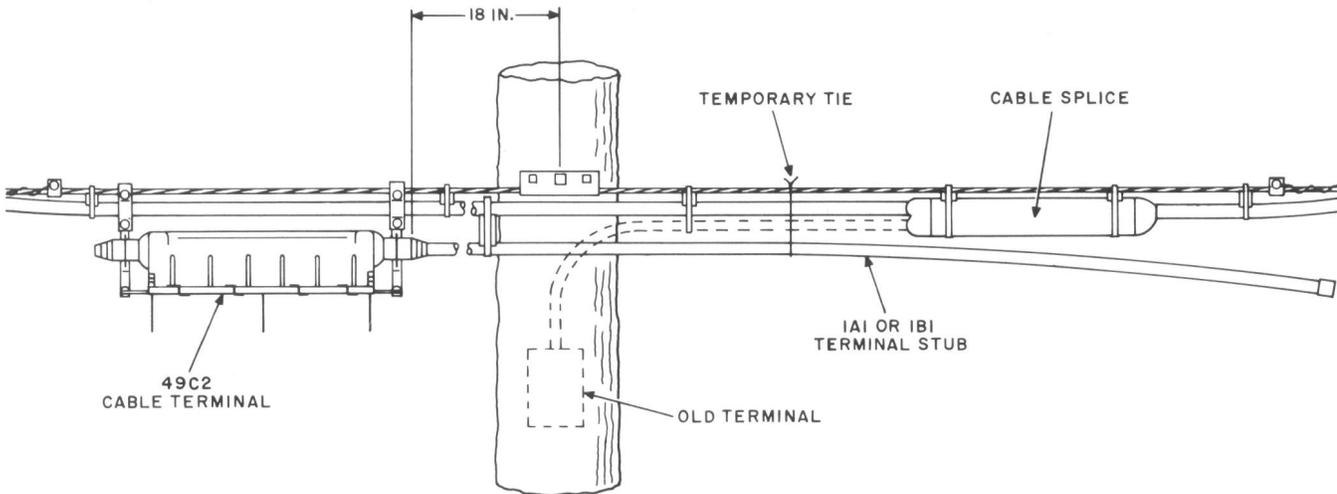

Fig. 18—Placing Terminal and Stub at Intermediate Pole
4.01 Locate the stub and terminal assembly as shown in Fig. 18 with pole between the terminal assembly and the cable splice. Maintain a distance of 18 inches between the body of the